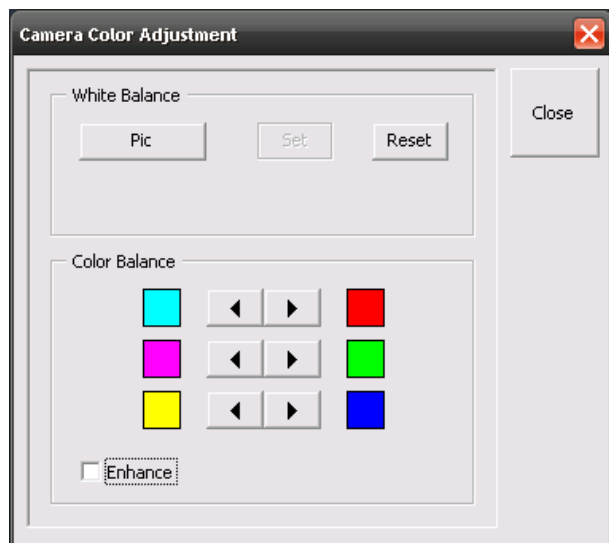

Fig. 24 Camera Color Adjustment window
- The **Camera Color Adjustment** window appears on the screen (see Fig. 24).